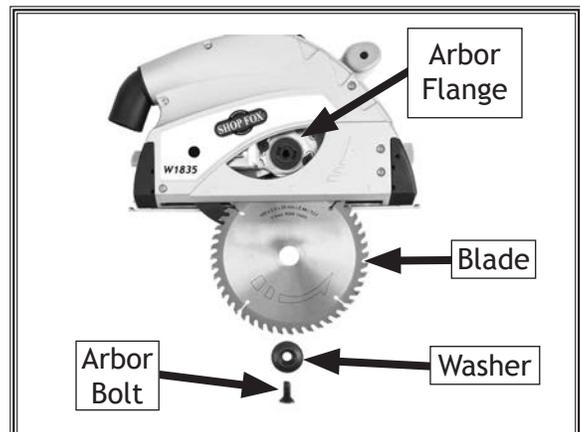

Figure 11. Saw blade and blade-fastening components.
6. Make sure grooves of the arbor washer are correctly lined up with the flange and thread the arbor bolt and washer into place with your free hand. The correct order of installation is shown in **Figure 11** for your reference.